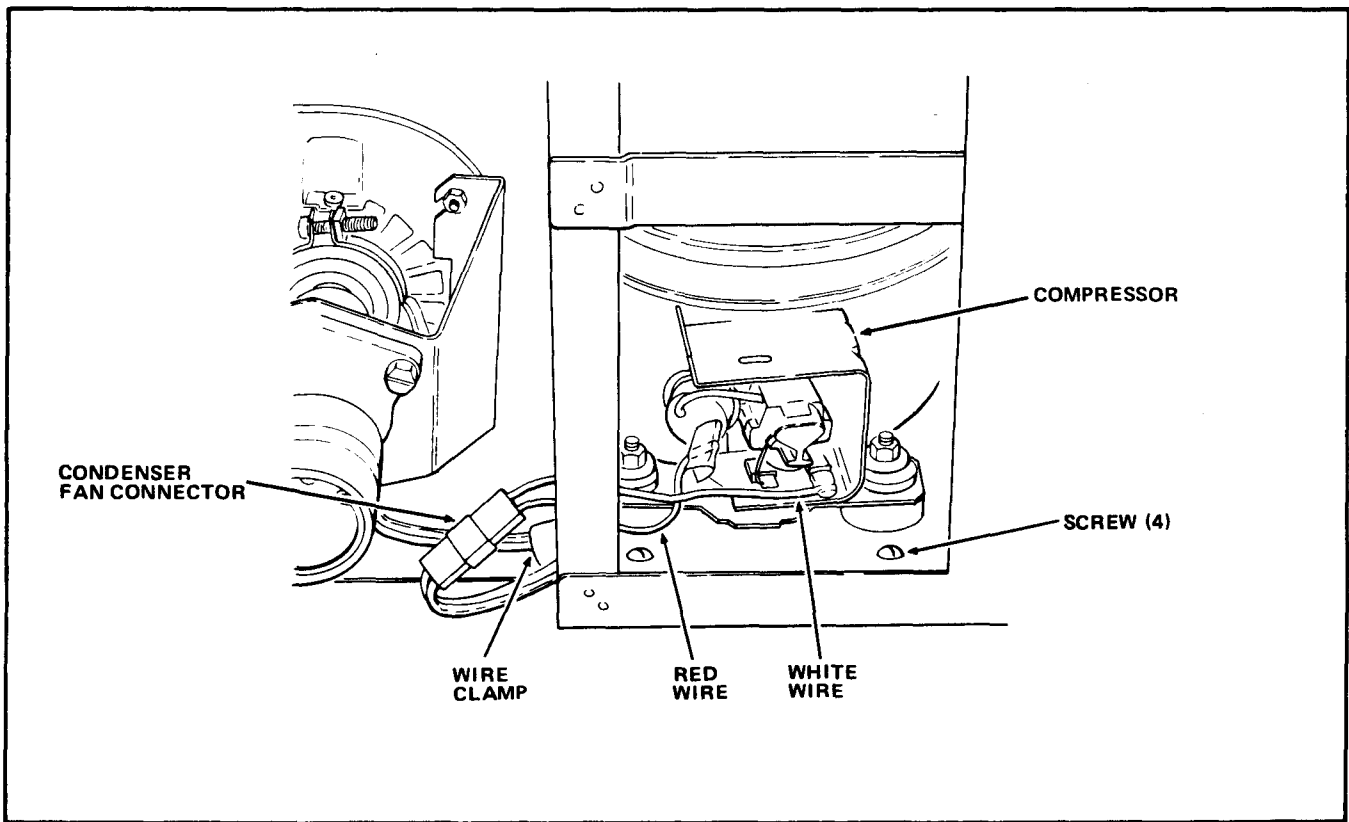

FIGURE 9
32. Remove and retain four Screws attaching the Refrigeration Module Assembly to the bottom of the Refrigeration Compartment and remove the Refrigeration Module Assembly from the Water Bath and Refrigeration Module Final Assembly. See Figure 9.
30. Disconnect the RED and WHT wires from the Refrigeration Module Assembly. See Figure 9.
31. Remove the Wire Clamp and disconnect the Condenser Fan Connector. See Figure 9.